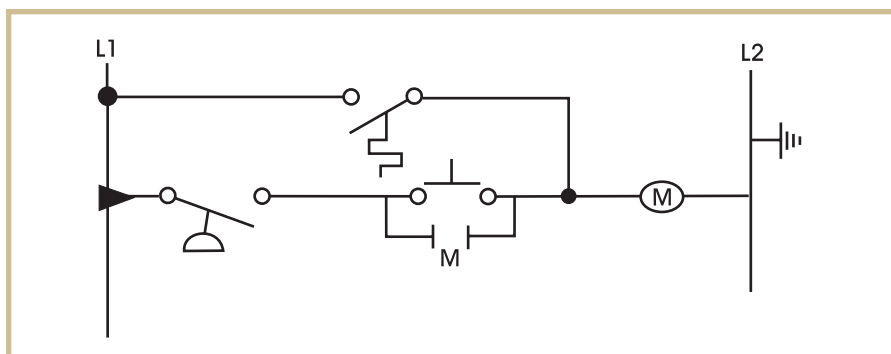

FIGURE A2—Use this schematic to answer Question 12.
12. Which statement is true for the process-control relay ladder diagram shown in **Figure A2**?